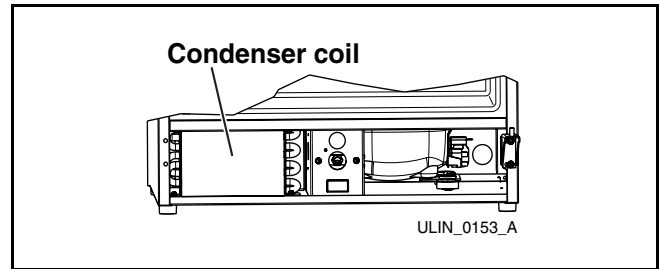

Figure 7
4. Clean the condenser coil (**Figure 7**) using a soft brush with a “combing” action or vacuum cleaner. Do not touch condenser coil.